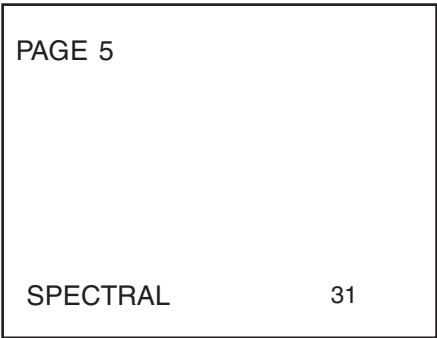

Fig. 5-4
- 4. Adjust the internal Variation of TV Multiplex Transmission Signaler to 1kHz and perfrom the same method as in step 3. (Fig 5-4)